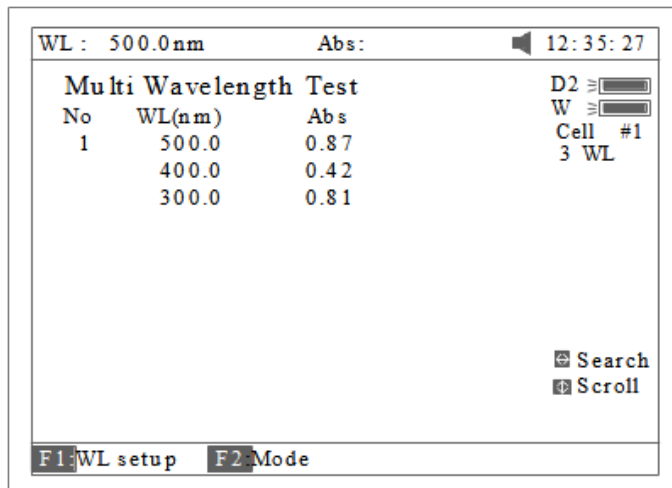

Fig 71
4. Pull the sample cuvette into Main Light Path, press 【START】 to test. The test results will be displayed on the screen (Fig 71).